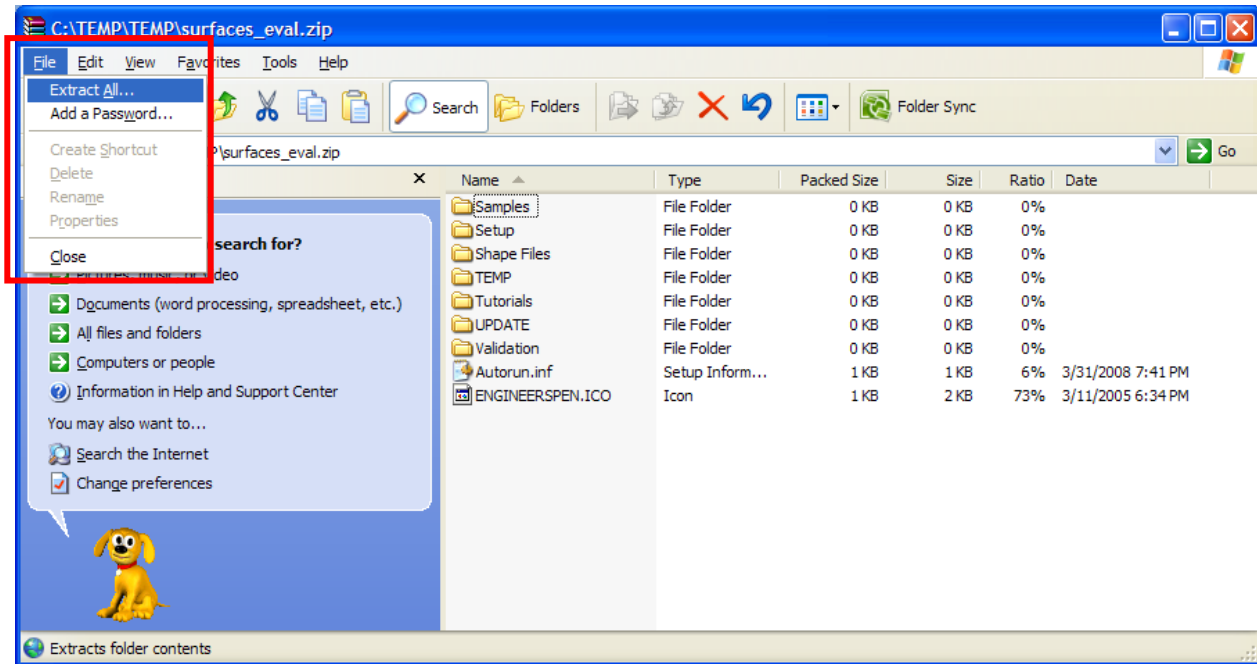

**Figure 1-5: The same form during and after download completes.**
STEP 1.6 Once the download completes a new form appears, similar to the one in Figure 1-5. Press the [Open] button to extract the files.